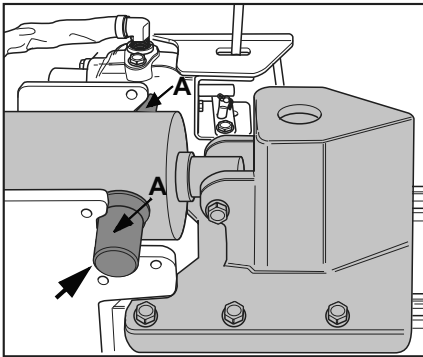

Fig. 9a
- Lift the cylinder up to the end of the splitting column and slide into the welded-on mount block (pin A must be situated in the recesses). (Fig. 9a)